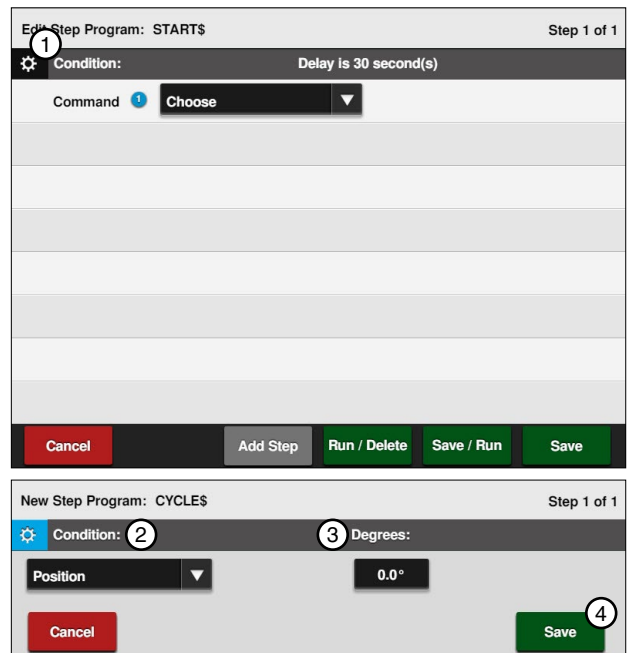

Figure 133-2 1. Settings 2. Condition 3. Degrees 4. Save
8. When you are done editing, finish the program by pushing the **Save** button and selecting **Save** to save the program. Refer to Figure 133-2.